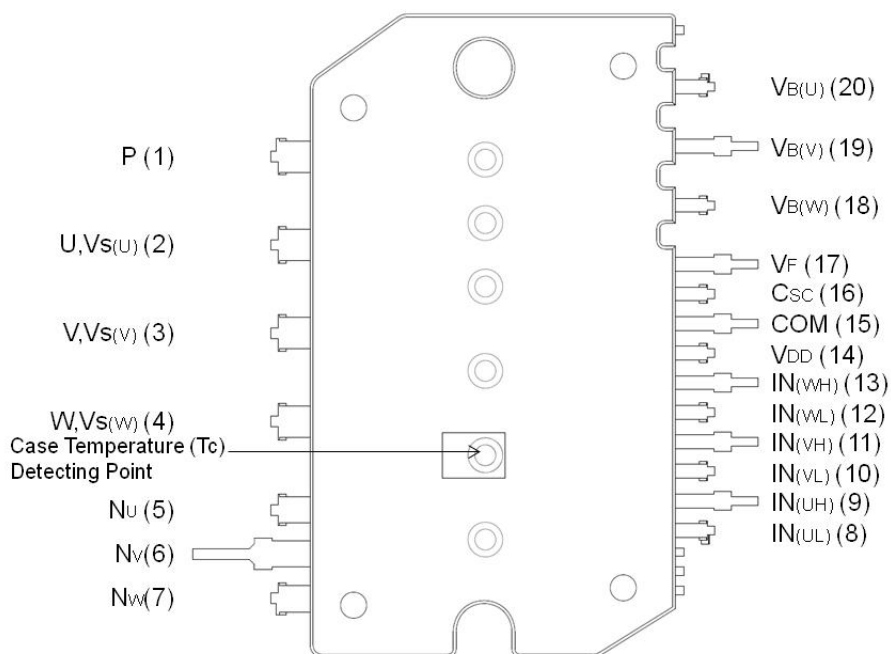

Figure 2. Top View
7. For the measurement point of case temperature (T_C), please refer to Figure 2.